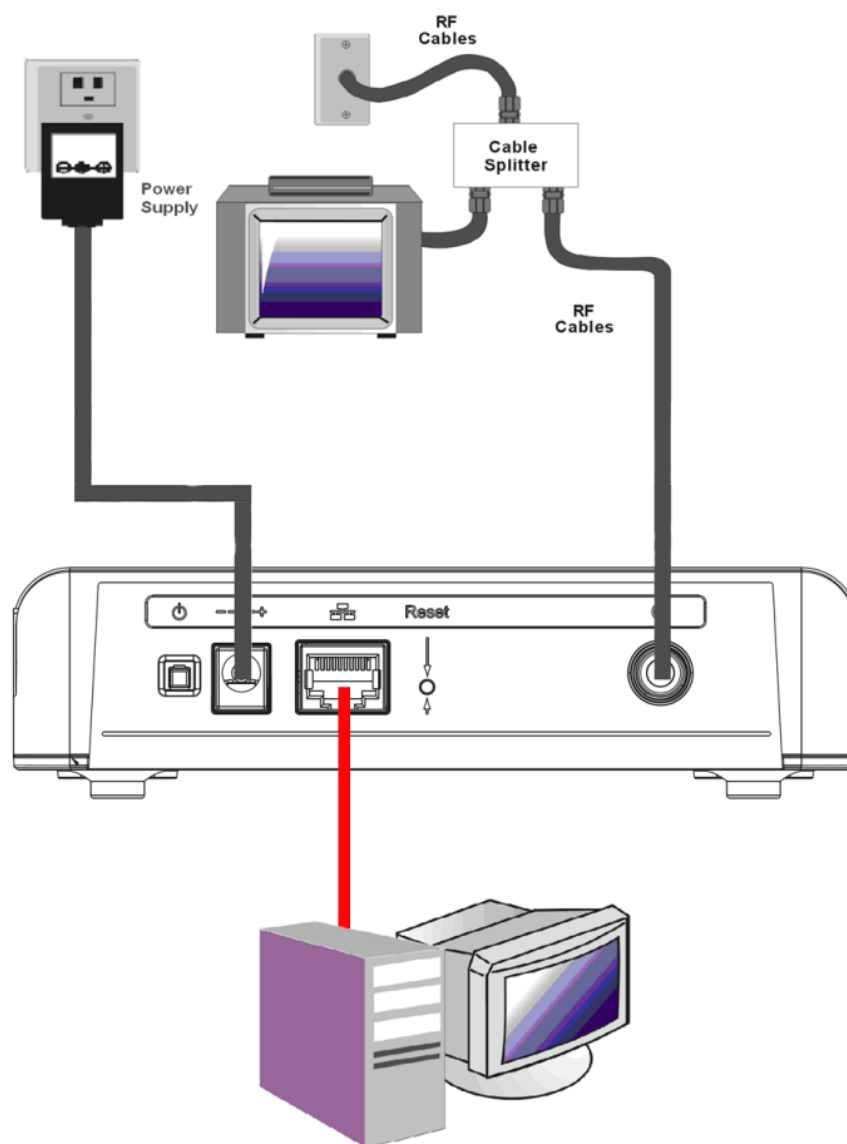

Fig. 1-6 Connect to the Modem
- c. Coming out from under a baseboard heater or other location. See Figure 1-6 for the wiring example.